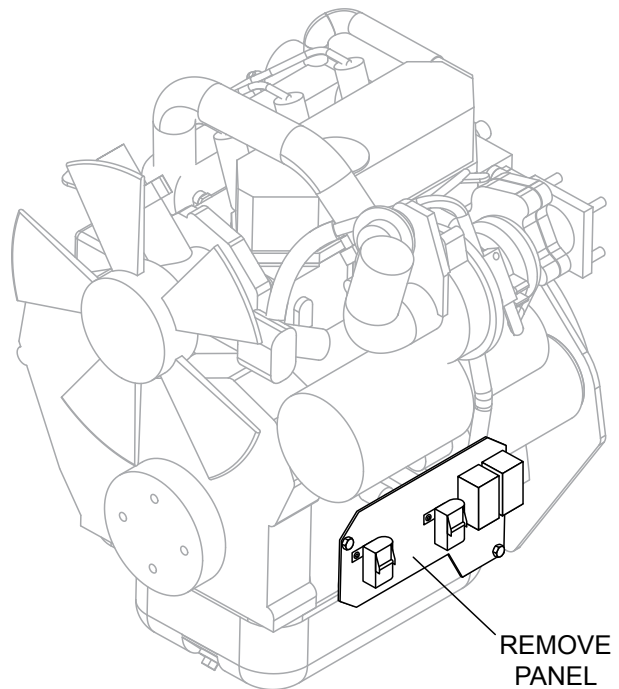

Figure 18. Remove Perkins Relay/Fuse Panel
- Perkins engine only:** Remove and retain relay/fuse panel. See Figure 18.